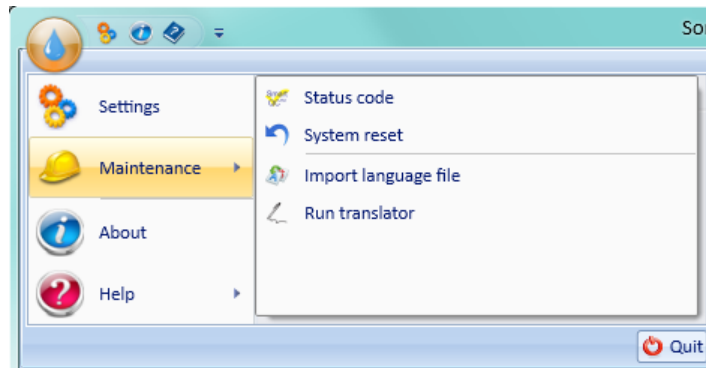

Figure 80. IQ Software reset function
- This function also can be accessed from the Maintenance menu accessed from the IQ icon in the upper left corner of the software (Figure 80).